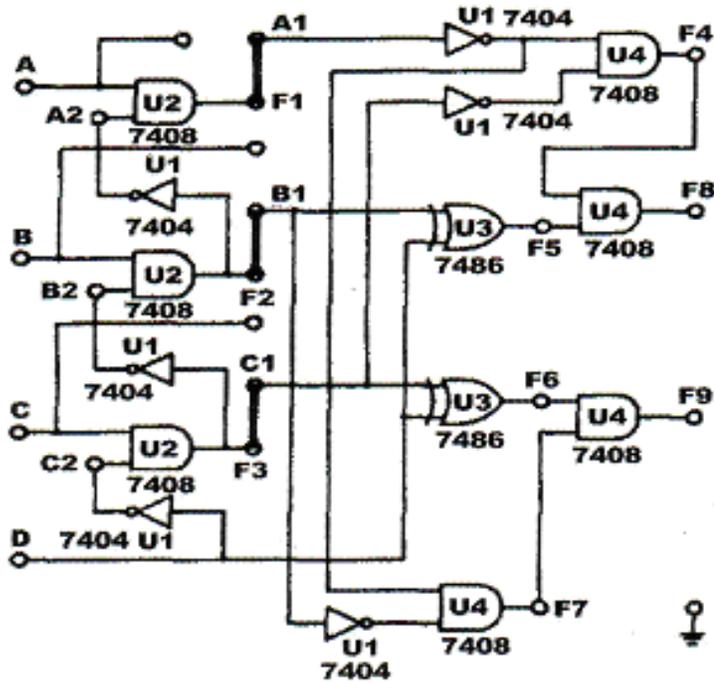

Fig. 2-65
6. Remove the connection clip between A and A1; insert it between A1 and F1 as shown in Fig. 2-65. All other connections remain the same. Follow the input sequences in Table 2-29 and record output states.